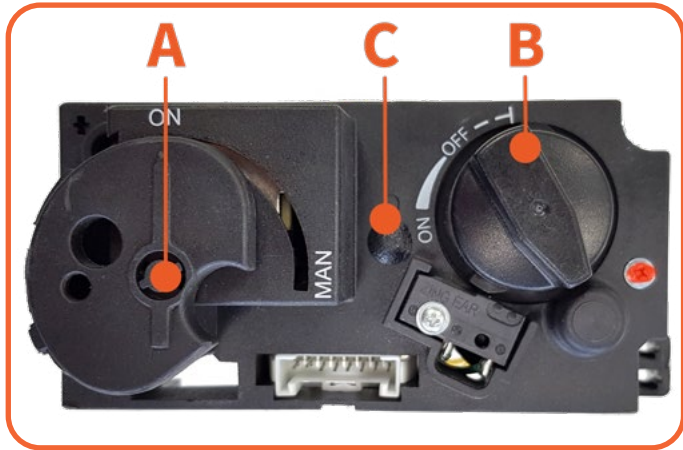

Figure 4.3 - Gas Block
- the gas valve (**Figure 4.3**)
Check that the control knob (A) is in the ON position (**Figure 4.3**). Press the button on/off button of your remote control and continue to hold down (3 to 5 sec.) until you hear two short beeps.
After starting the pilot, knob B will automatically rotate counter clockwise and the main burner will start burning (**Figure 4.3**).
In the case that a fireplace has the incorrect burner pressure, one may adjust this by removing the little black cap (C in **Figure 4.3**) and turn the small screw underneath.